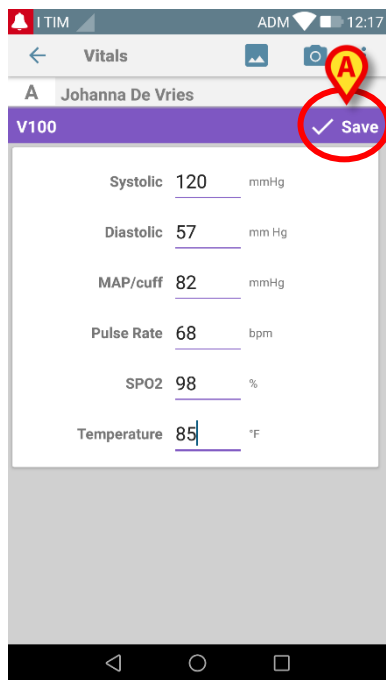

Fig 93
Once the desired value is inserted, the following screen will appear (Fig 93):
- Touch the **Save** button in the top right corner (Fig 93 **A**).